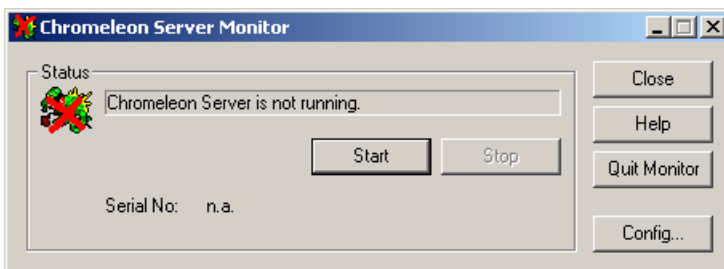

Figure 5. Server Not Running
4. If the server is not already running, start it by clicking **Start** (see Figure 5).